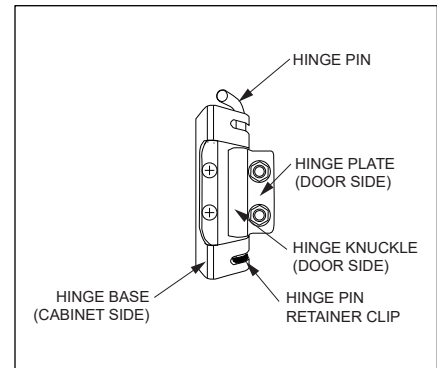
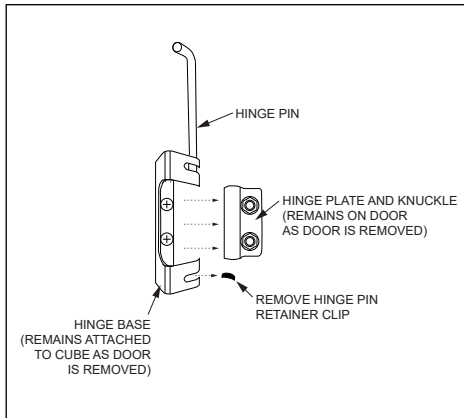
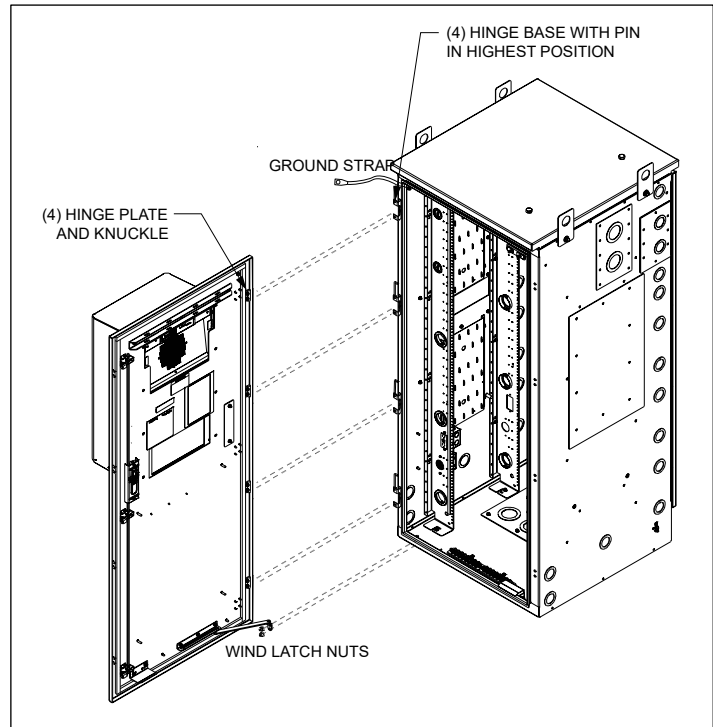

Figure 3 Hinge Assembly
Figure 4 Hinge Separation
Figure 5 Door Removal and Mounting
4. Locate the hinge pin (Figure 3). Remove the retainer clip and lift the hinge pin to its highest position (Figure 4). A hammer or mallet may be necessary to move the pin upward.
5. Remove the door from the CUBE (Figure 5). The hinge plate and hinge knuckle remain attached to the door. The hinge base with the hinge pin remains attached to the CUBE door frame (Figure 4).
3. Move the replacement door into position so that the hinge knuckles on the replacement door line up with the hinge pin holes on the hinge base on the CUBE door frame (Figure 4). Use local safety practice for lifting the door. Charles recommends using two people to support the weight and a third person to maneuver the hinges into position.